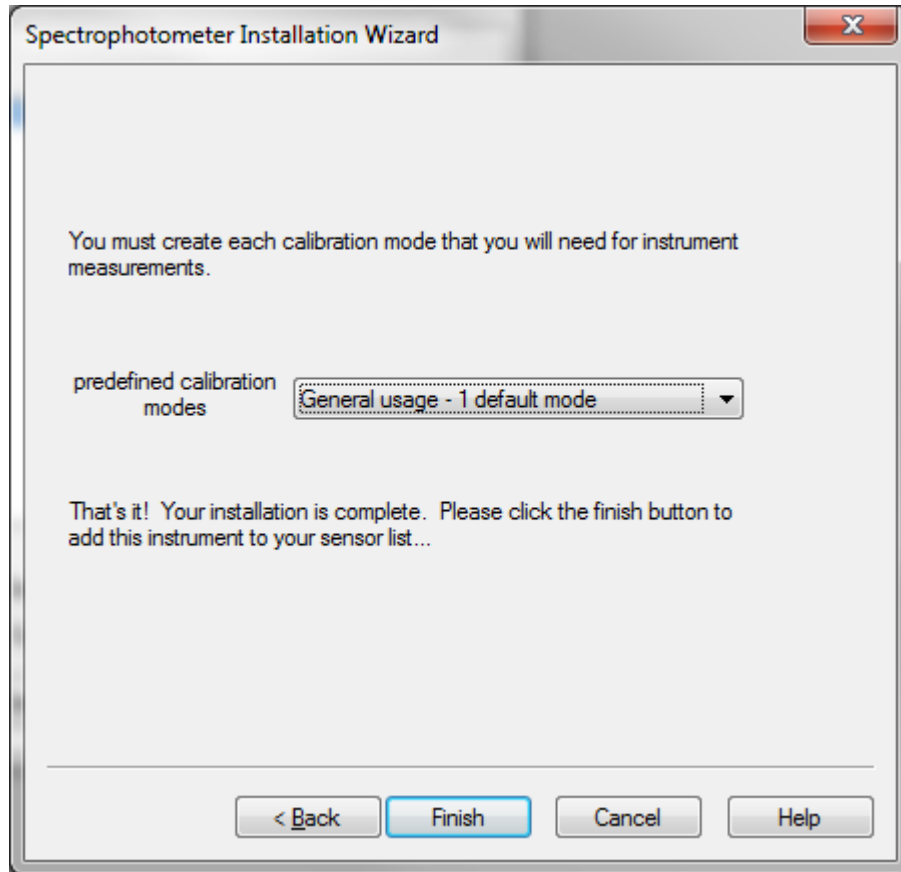

Figure 6 —Calibration Modes
11. The next dialog (see Figure 6) will appear and prompt you to select a pre-defined calibration mode for your instrument. This dialog allows you to create an initial calibration mode for the instrument just installed. The mode contains such information as the size of the sample port, the type of illumination the instrument uses, whether or not you are taking reflectance or transmittance data, etc.